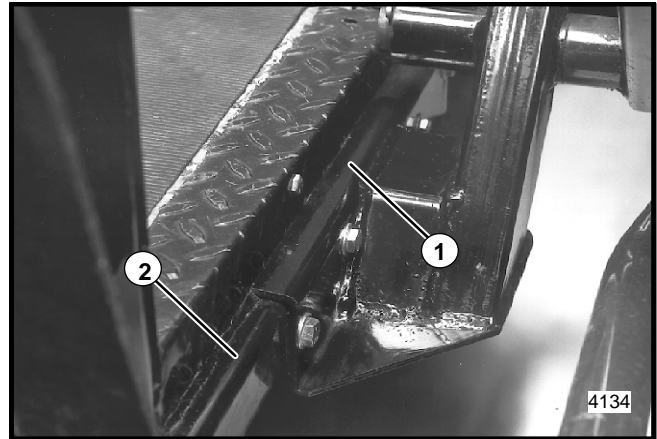

Figure 6
2. Raise and support lower end of elevator enough so lower mounting bracket can be clamped in place against vehicle frame rail; with bracket top flange down against top of frame rail. Clamp in place. Use holes in bracket as a template. Drill four (4) 13/32" (10 mm) holes through frame rail (See Fig. 6). Secure with four screws, 3/8-16 x 1 (Part No. 306414), lockwashers and nuts. Remove clamps and support at lower end of elevator.